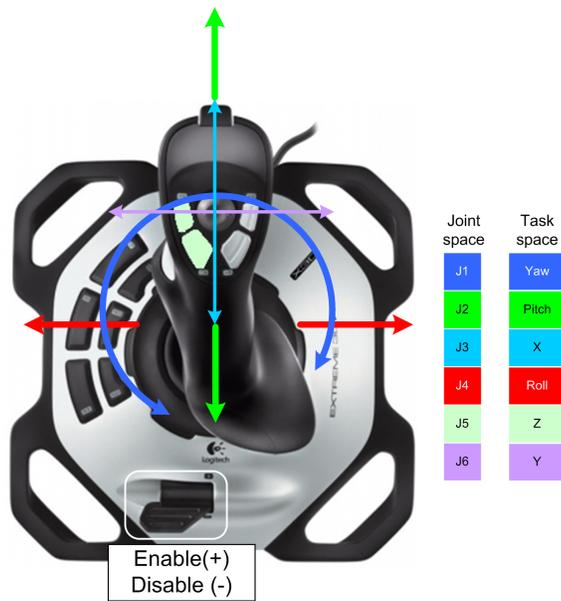

Figure 3.6: Joystick mapping for teleoperation
The Teleop\_Joystick\_Command.slx model is an example model that uses the QUARC Host Peripheral framework to interface to a joystick. The model is calibrated such that the joystick generates Cartesian task-space rate commands. These Cartesian rate commands are sent through QUARC Stream Client block to the MICO\_Teleop\_6DOF.slx model. This model was created with the Logitech® Extreme™ 3D Pro (X3D) (see Figure 3.6) in mind, but can be converted to use other input devices as well.
12. Move the joystick and examine the motions of the robot arm. The joystick button mapping is provided in Figure 3.6.